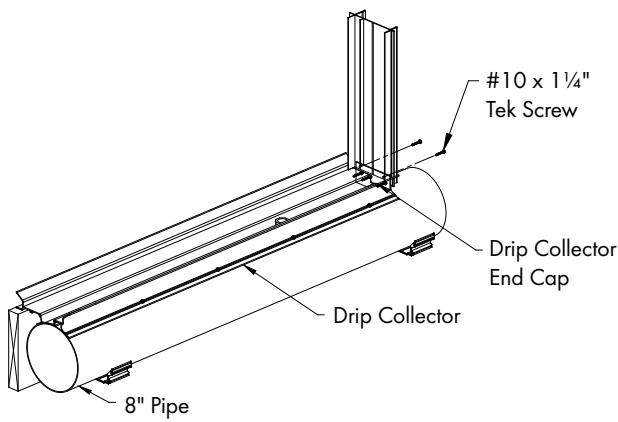

Figure 6B
Slide right End Panel into framing and into Drip Collector on right end. End Panel should fit snug, make sure ribs sit down tight into the Drip Collector. Fasten the last 2 screws into the Drip Collector End Cap using (2) 10 x 1¼" TEK Screws. See Figure 6B.